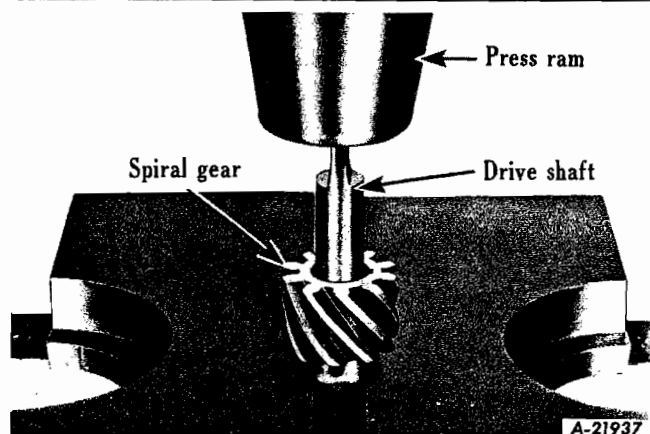

Fig. 48 - Use SE-1499 Oil pump support plate or other suitable support when pressing shaft from gear.
5. Place two support plates under spiral gear in press, and press oil pump drive shaft out of pump spiral gear (Fig. 48). Remove Woodruff key.